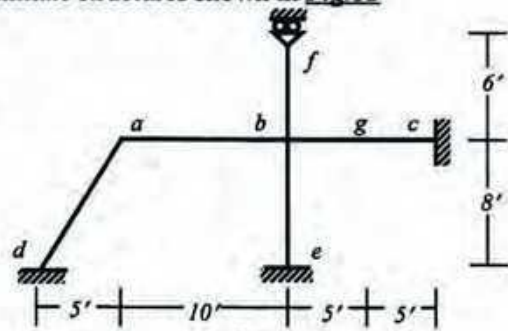

Fig.12
13. Draw the Qualitative Influence lines for the indeterminate structures shown in *Fig.12*